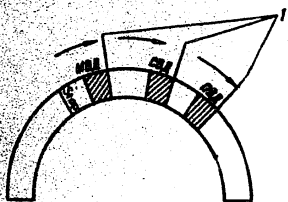

FIG. 74. ACCELERATION OF DIESEL ENGINE SPEED
98. When exercising control by the "Linija" system, set the system panel handle within the zones of the respective speeds marked on the panel scale, in positions shown in Figs 74 and 75).